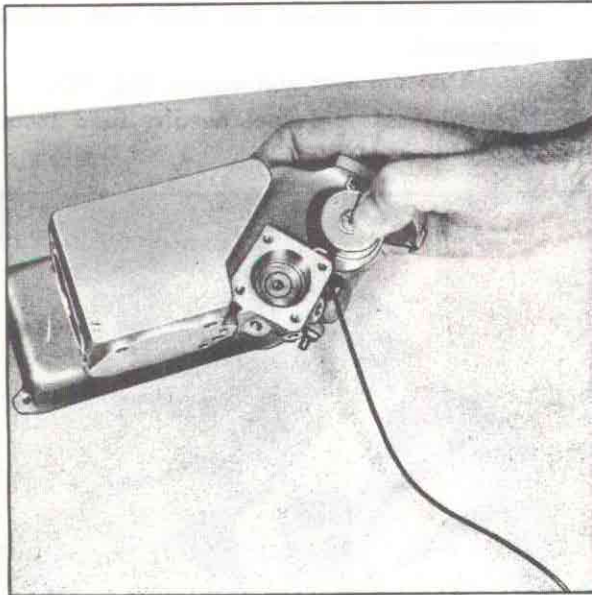

Figure 42
- Depress the solenoid plunger manually to see that it unseats the fuel valve (fig. 42), for